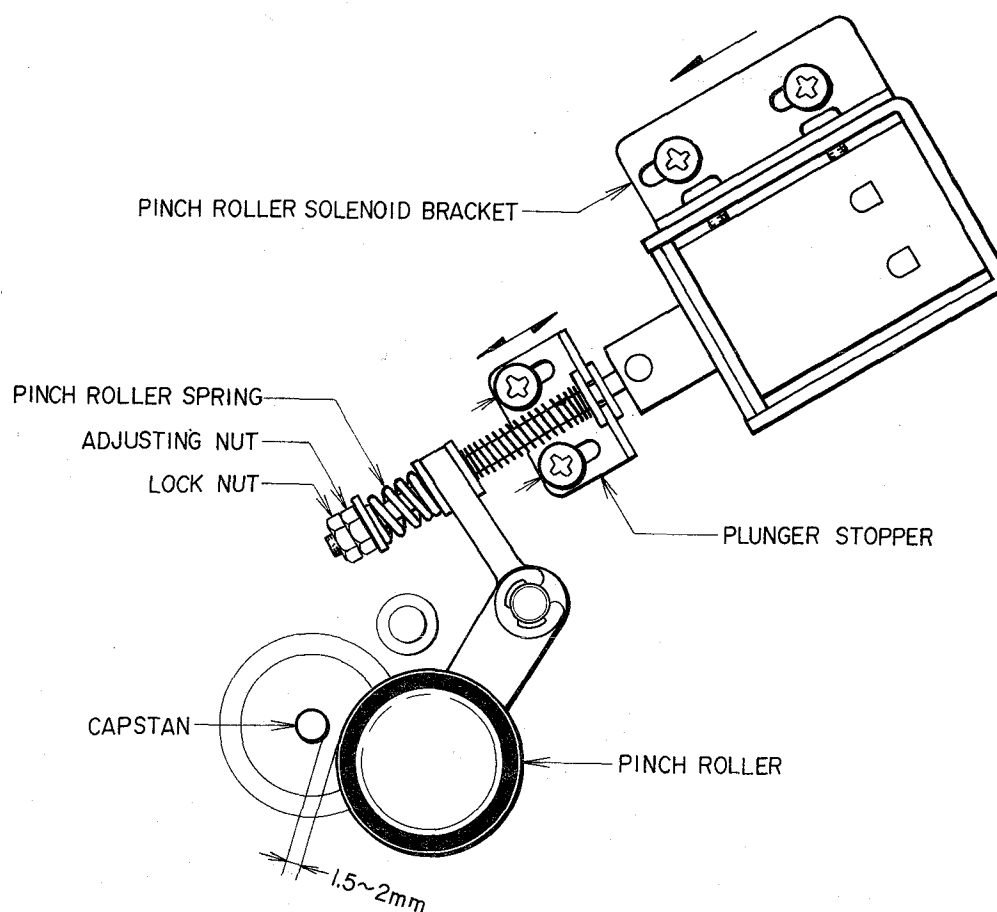

Fig. 1
- (a) Loosen solenoid Holder bracket screw and position solenoid toward the arrow mark direction in Fig. 1 and fix at this position.
- (d) Loosen Pinch Roller Spring Lock Nut. With other nut (adjustment nut, fig. 1), adjust pinch roller pressure. After adjustment has been made, tighten Lock Nut.